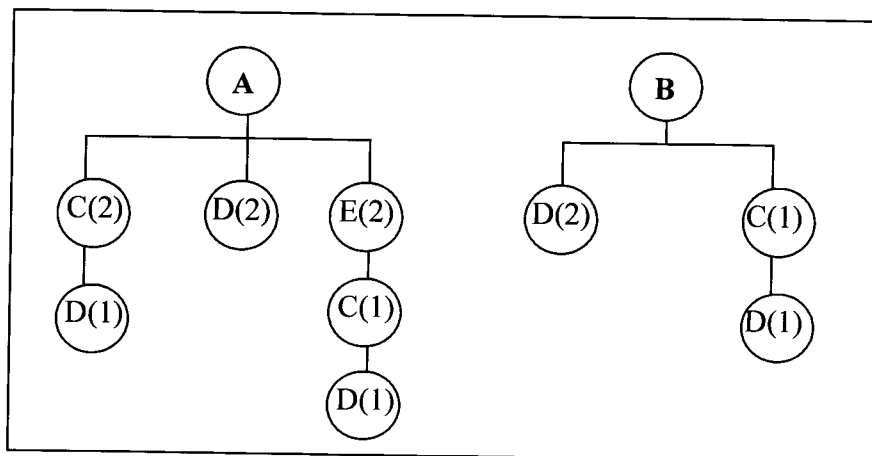

Figure Q2(a): Bill of Materials for item A and B
- Q2 (a) Figure Q2(a) shows the Bill of Materials (BOM) for two end items, A and B. Table Q2(a) shows the Master Production Schedule (MPS) quantity release dates (already offset for lead time) for each one. Table Q2(b) contains data from inventory records for item C, D, and E.